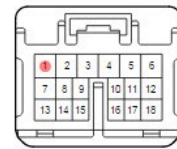

Figure 26
41. Connect all harnesses and mount the control module to the factory harnesses, in front of the JB connector with wire tie. Figure 26.